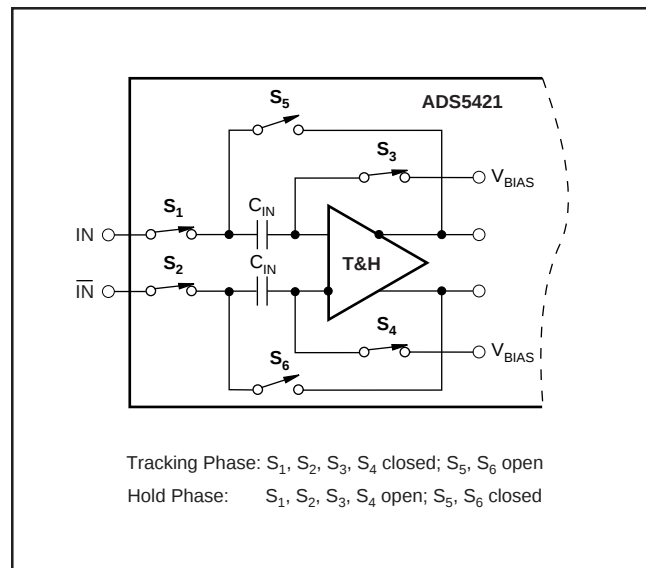
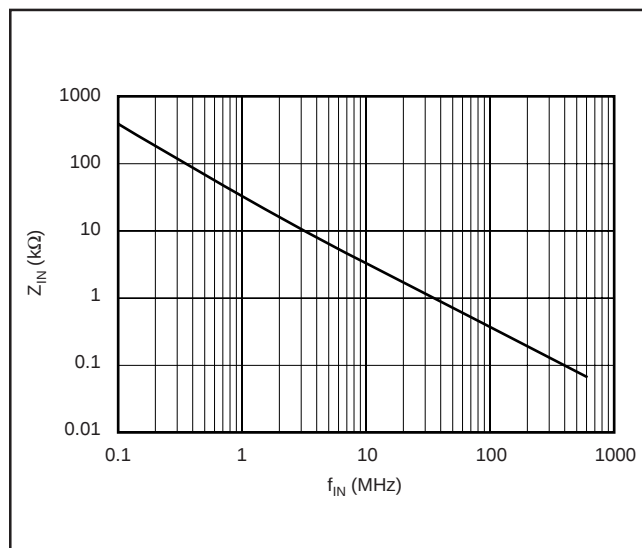

FIGURE 1. Simplified Circuit of Input Track-and-Hold Amplifier.
FIGURE 2. Differential Input Impedance vs Input Frequency.
The analog input of the ADS5421 consists of a differential track-and-hold circuit, as shown in Figure 1. The differential topology produces a high level of AC performance at high sampling rates. It also results in a very high usable input bandwidth—especially important for Intermediate Frequency (IF) or undersampling applications. Both inputs (IN , $\overline{IN}$) require external biasing up to a common-mode voltage that is typically at the mid-supply level ($+V_S/2$). This is because the on-resistance of the CMOS switches is lowest at this voltage, minimizing the effects of the signal-dependent,
The input of the ADS5421 is capacitive, and the driving source needs to provide the slew current to charge or discharge the input sampling capacitor while the track-and-hold amplifier is in track mode (see Figure 1). This effectively results in a dynamic input impedance that is a function of the sampling frequency. Figure 2 depicts the differential input impedance of the ADS5421 as a function of the input frequency.